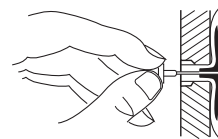

Figure 8 - Popping Open Anchor Wings For Thin Walls
4. For thin walls (1/2" or less), insert red key into wall anchor. Push red key to "pop" open anchor wings (see Figure 8).